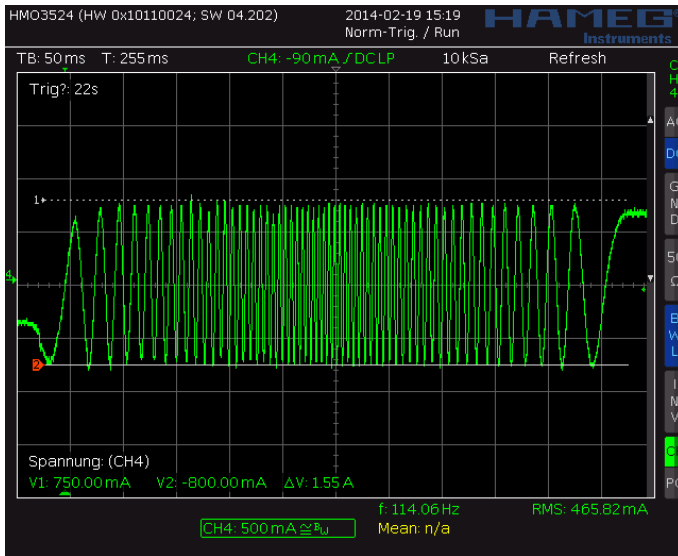
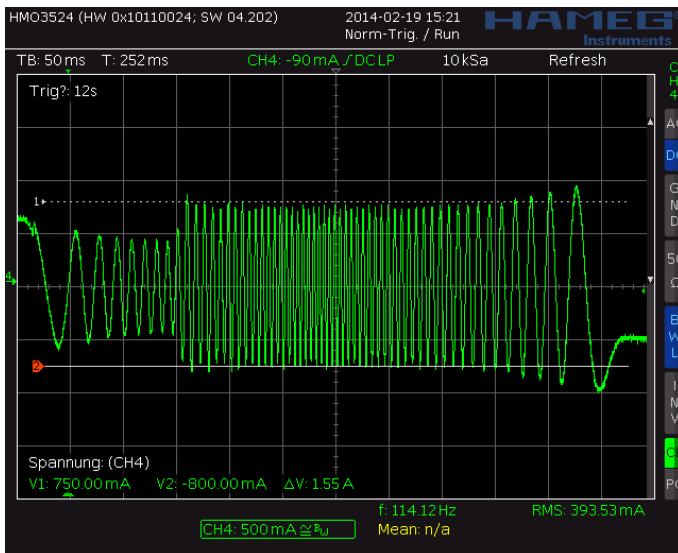
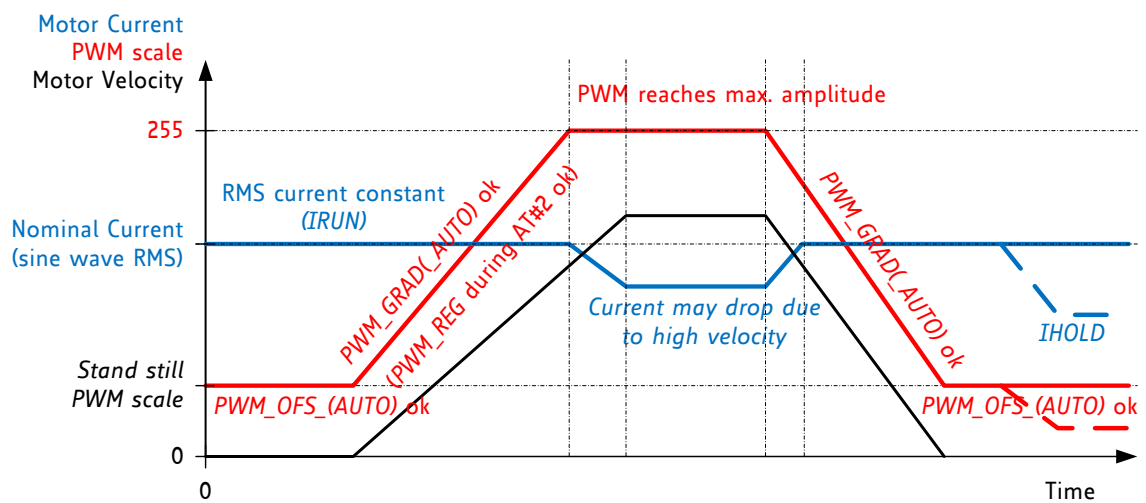

Figure 6.3 Scope shot: good setting for PWM_REG
Figure 6.4 Scope shot: too small setting for PWM_REG during AT#2
Figure 6.5 Successfully determined PWM_GRAD(AUTO) and PWM_OFs(AUTO)
In StealthChop voltage PWM mode, the autoscaling function ($pwm_autoscale = 1$, $pwm_auto_grad = 1$) regulates the motor current to the desired current setting. Automatic scaling is used as part of the automatic tuning process (AT), and for subsequent tracking of changes within the motor parameters. The driver measures the motor current during the chopper on time and uses a proportional regulator to regulate PWM_SCALE_AUTO in order match the motor current to the target current. PWM_REG is the proportionality coefficient for this regulator. Basically, the proportionality coefficient should be as small as possible in order to get a stable and soft regulation behavior, but it must be large enough to allow the driver to quickly react to changes caused by variation of the motor target current (e.g. change of $VREF$). During initial tuning step AT#2, PWM_REG also compensates for the change of motor velocity. Therefore, a high acceleration during AT#2 will require a higher setting of PWM_REG . With careful selection of homing velocity and acceleration, a minimum setting of the regulation gradient often is sufficient ($PWM_REG=1$). PWM_REG setting should be optimized for the fastest required acceleration and deceleration ramp (compare Figure 6.3 and Figure 6.4). The quality of the setting PWM_REG in phase AT#2 and the finished automatic tuning procedure (or non-automatic settings for PWM_OFS and PWM_GRAD) can be examined when monitoring motor current during an acceleration phase Figure 6.5.